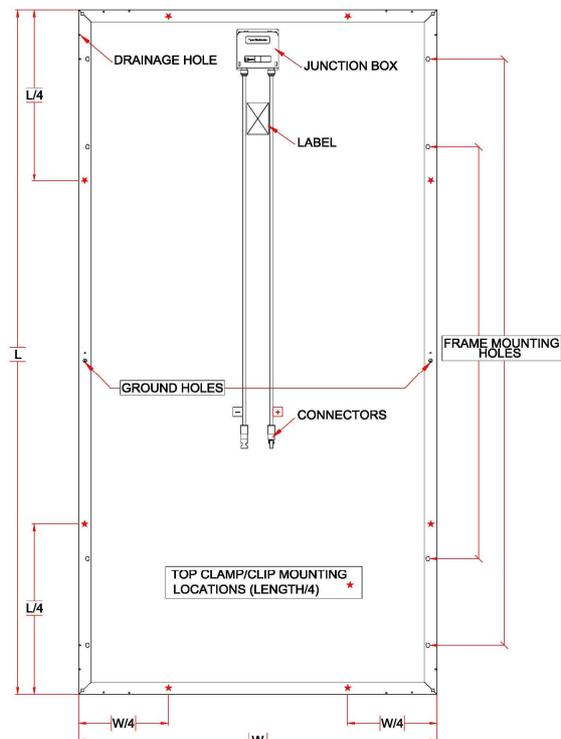

Figure 1: Module Mounting Locations
If PV modules individual grounding is requested by the local legislation, Upsolar PV modules should be grounded to the module frame using one of the provided grounding holes (Figure 1). Please refer to NEC Article 250, 690.41-690.49, and UL Standard 1703 for proper grounding procedures.
2. **Top Mount Clamps/Clips:** Attach the PV module to the mounting system using Clamps or Clips from a certified manufacture according to their instructions. Clamp and/or clips should be spaced at ¼ the length or width from the frame ends (± 5 cm). Top mount clamps/clips should always be mounted symmetrically. See figure 1. Upsolar recommend the following minimum dimensions for each clamp: catch length: 30.0mm, catch width: 5.0mm, thickness: 3.0mm. The torque recommended to fix the clamps is 15 N.m (11.1 lb.ft).